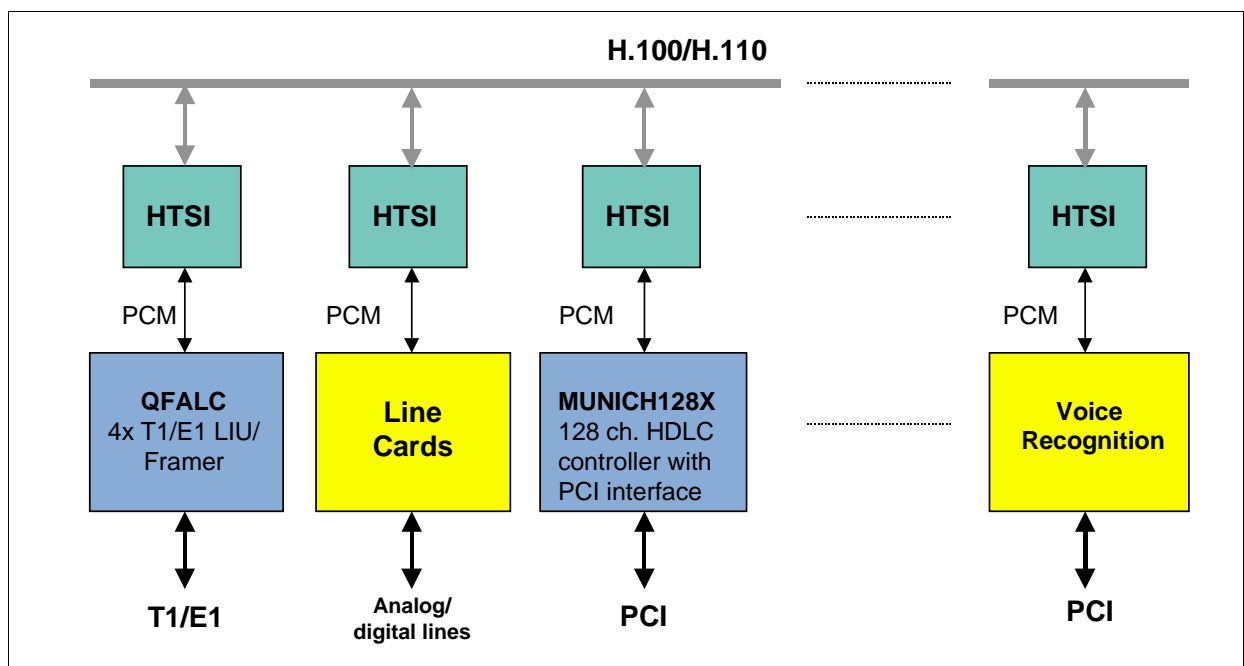

Figure 4 CT Application
In Computer Telephony (CT) environment, resource sharing is accomplished by passing data back and forth through the H.100/H.110 bus. **Figure 4** shows an example.